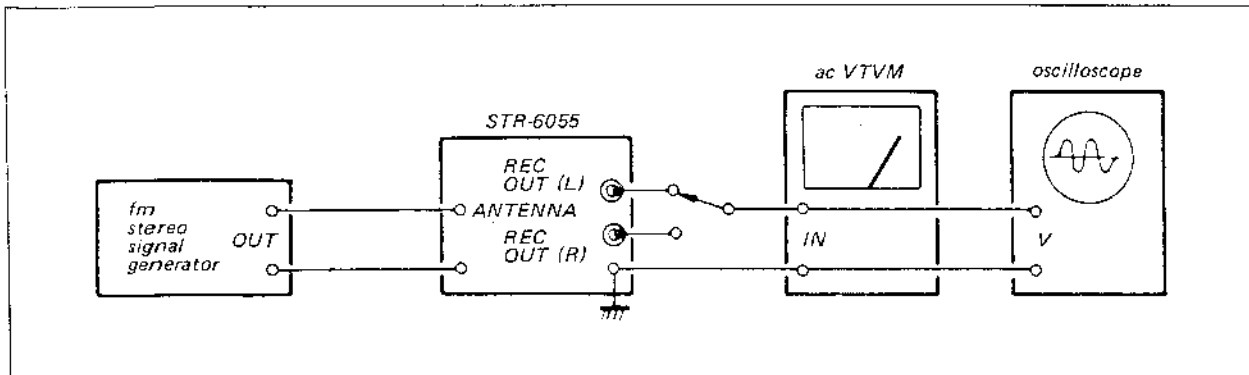

Fig. 3-6. Fm stereo separation adjustment test setup
2. Connect the test equipment as shown in Fig. 3-6, then set the fm stereo signal generator controls as follows: